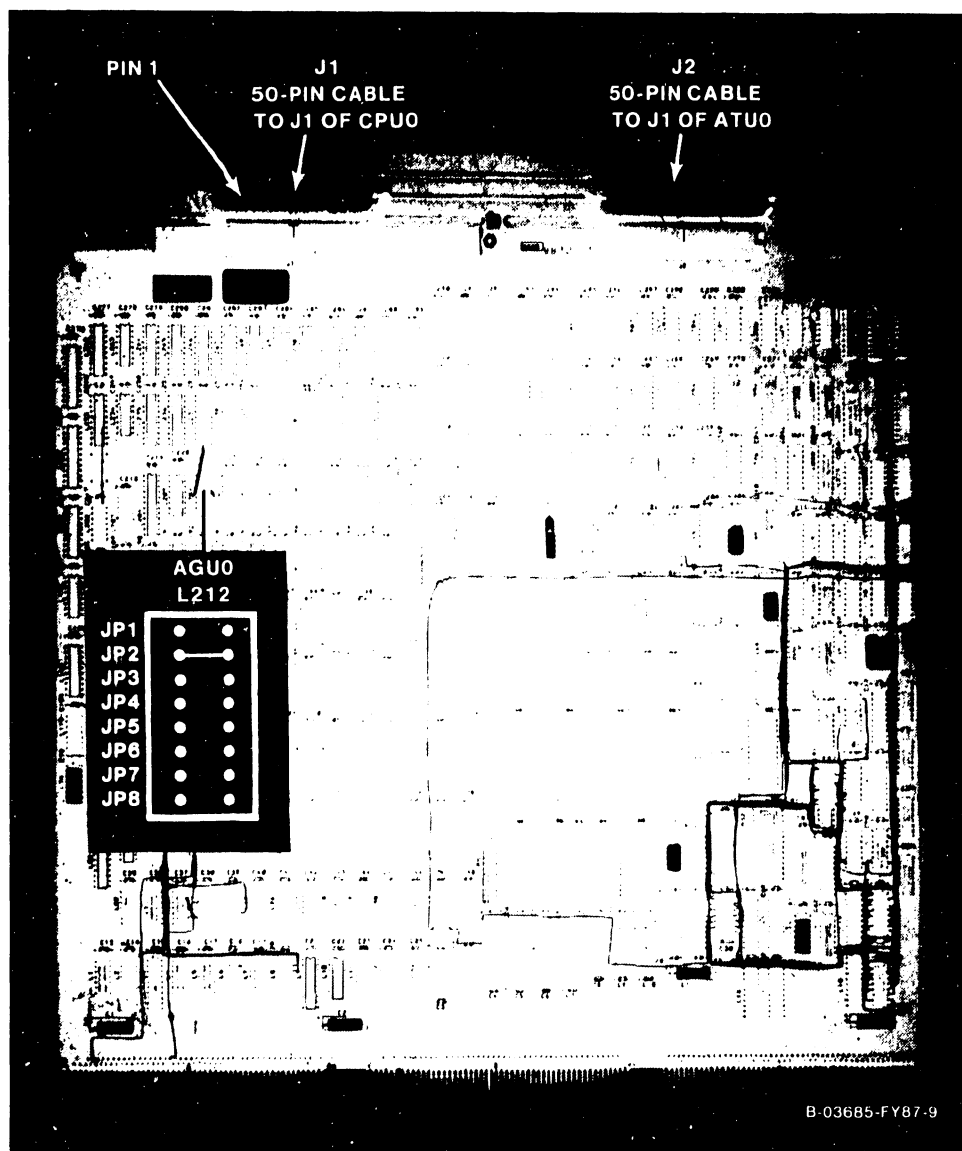

Figure 7-14. 210-9832 Address Generation Unit (AGU0)
1. Before removing the Address Generation Unit (AGU0), figure 7-14, from backplane slot #3, disconnect the 50-pin cables from J1 and J2.
3. After checking the oscillator jumpers at L212 (figure 7-14), install the new AGU0.